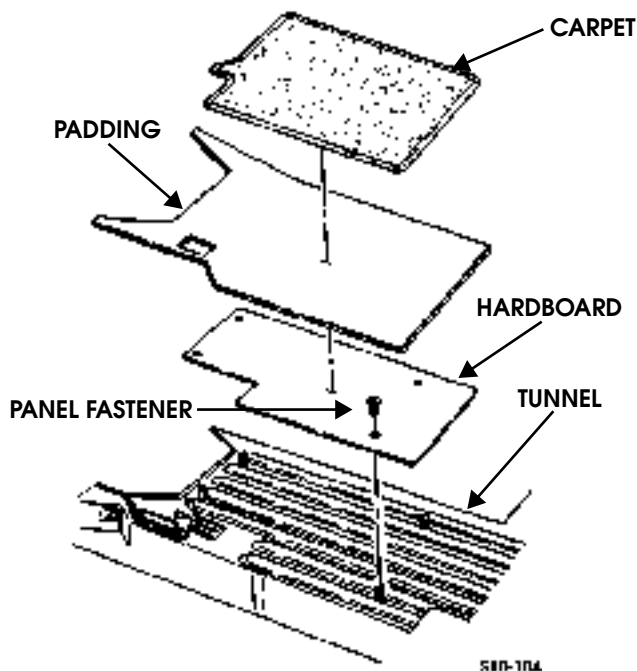

Figure 10-54: Carpet and Padding Installation
2. Remove carpet from tunnel (Figure 10-54).
1. Secure hardboard to tunnel with panel fasteners (Figure 10-54).